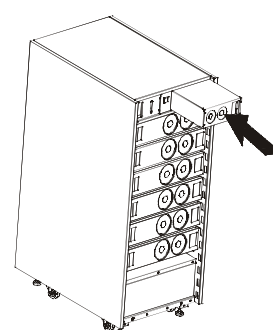

Fig.6
6. The UPS utilizes fans for forced cooling, the air inlet at the lower part of the front panel and the air vent on the rear panel should not be blocked. It is also necessary to reserve adequate space for future maintenance. Refer to Fig.6 for space requirement.
- 3) Insert the Charger Module into the bay at the top right corner of the frame if any. (Refer to Fig.6)